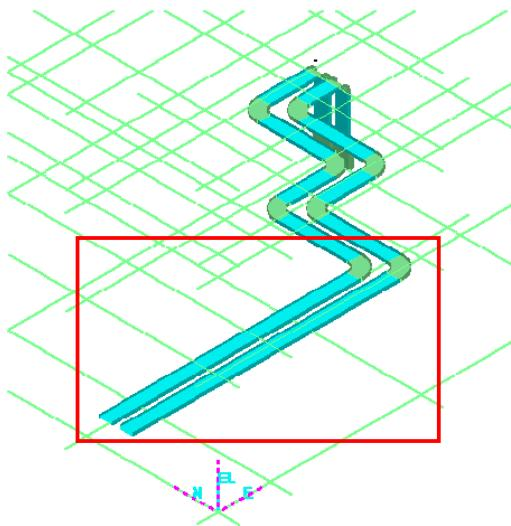

Figure 63: Extended Multi Tray
6. Now route the cable in the west direction and then in the south direction three times, as shown in Figure 63.